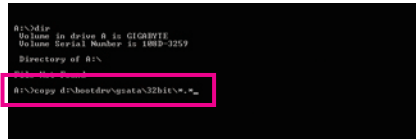

Figure 2
- For the GIGABYTE SATA2, type (Figure 2):^(Note)